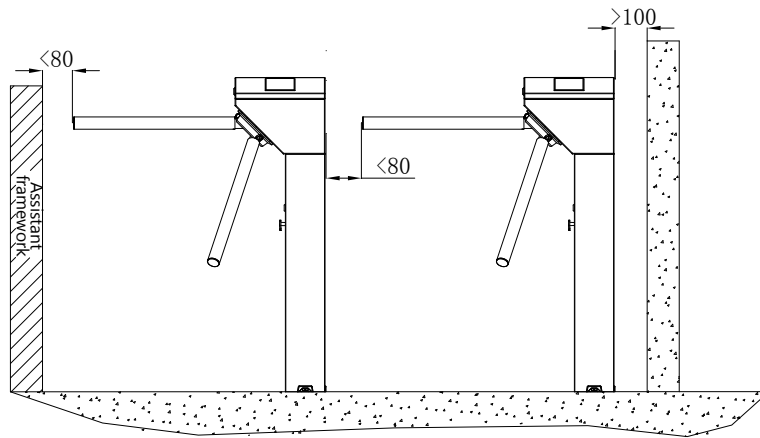

Figure 3-1
You are suggested to install an assistant framework or fence to form a passageway, as shown in figure 3-1.
2. The space at the end of the arm shall not be greater than 80 mm (see Figure 3-1).